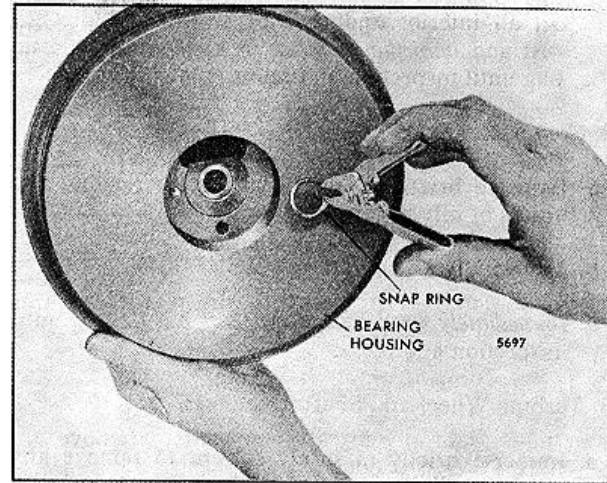

FIG. 10 - Removing Internal Snap Ring from Bearing Housing
12. Remove and discard the outer internal snap ring from the compressor end of the bearing housing bore (Fig. 10). Use a small internal snap ring pliers.